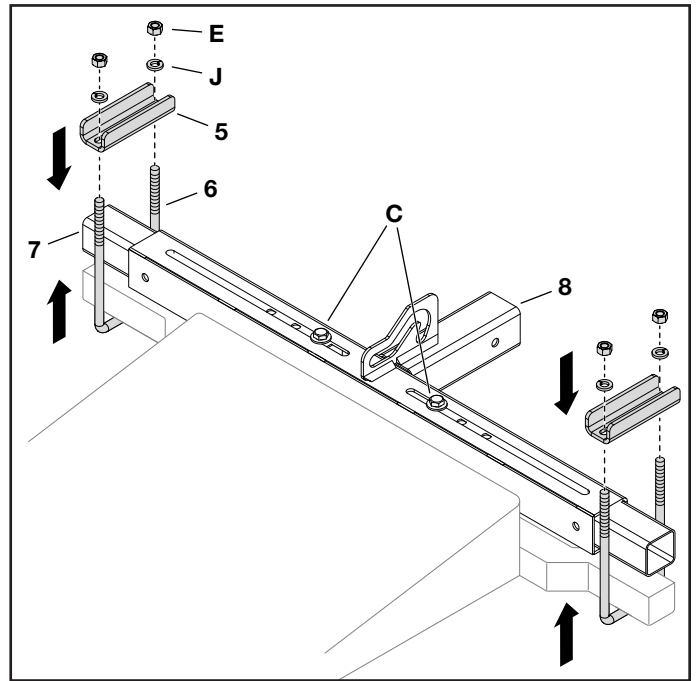

FIGURE 2
STEP 2: (SEE FIGURE 2)
- Attach the hitch mount assembly (8) to the tractor frame using two U-bolts (6) secured with two mounting brackets (5), four washers (J), and four hex nuts (E). Do not tighten.
- If the slider tube does not fully extend into both U-bolts (6), then loosen the appropriate hex bolt (C) and reposition the slider tube (7).